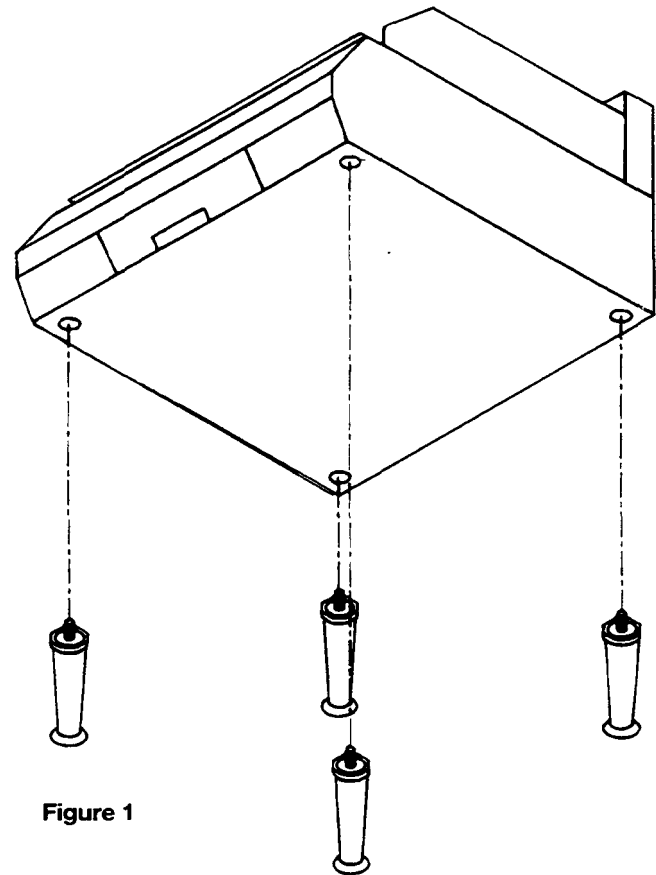

Figure 1
7. Install NSF approved legs supplied with griddle. Refer to Figure 1 (below).